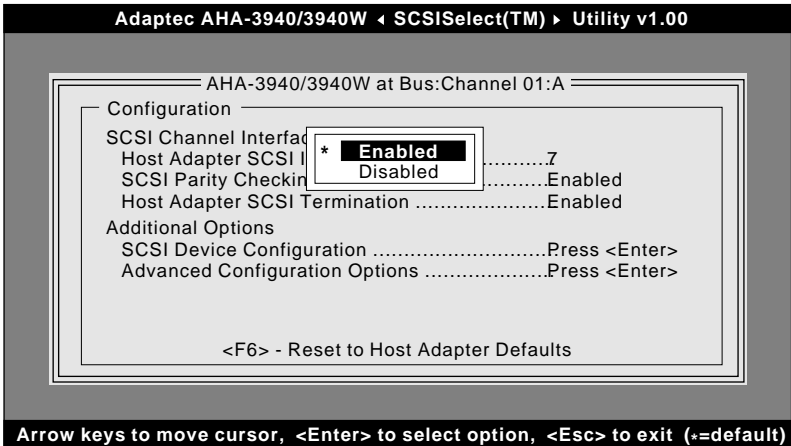

Figure 3-8. Host Adapter SCSI Termination Selection for AHA-3940/3940W
- 2 Highlight **Host Adapter SCSI Termination**, then press **Enter**. The pop-up menu shown in Figure 3-8 appears.